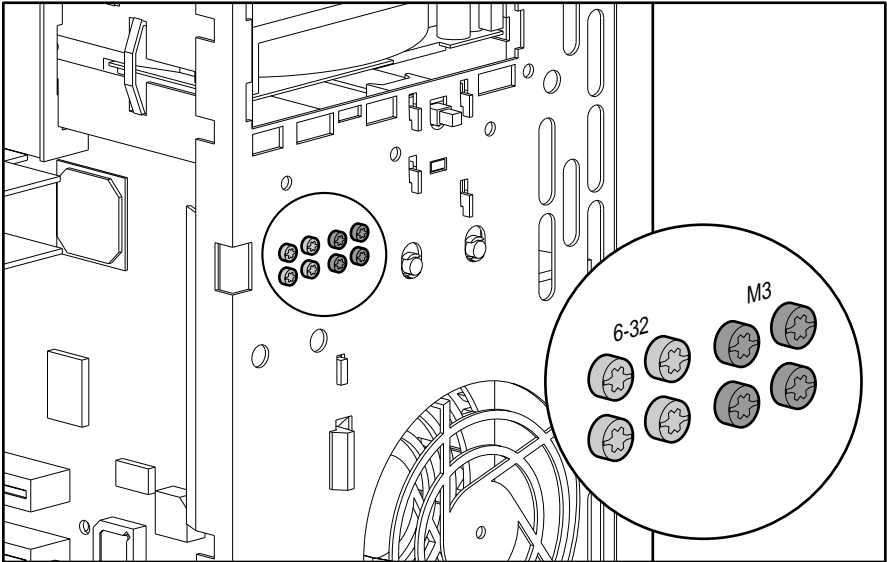

Figure 3-9. Identifying the metric (M3) screws
1. Install two M3 guide screws (Figure 3-9) into the bottom holes on each side of the replacement drive, making sure the guide screws line up with the guide slots.